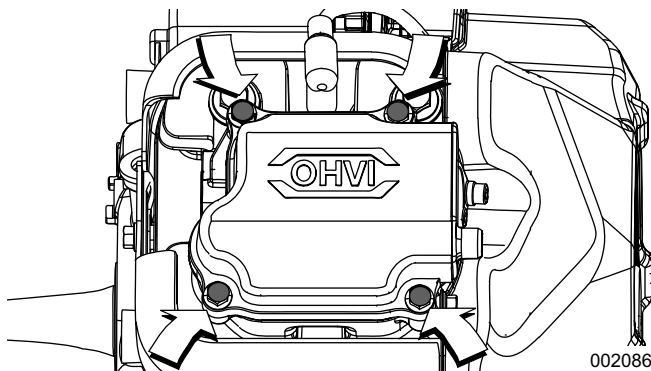

Figure 6-3. Rocker Arm Cover Removal
2. See Figure 6-3. Remove oil breather tube. Remove the four M6-1.00 x 12 mm screws and the rocker arm cover.